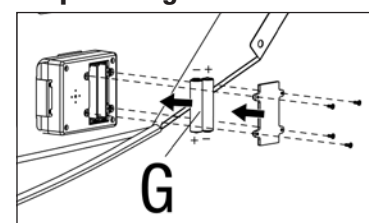

Figure 11
- Remove the back cover off of the timer as shown. (See Figure 11)